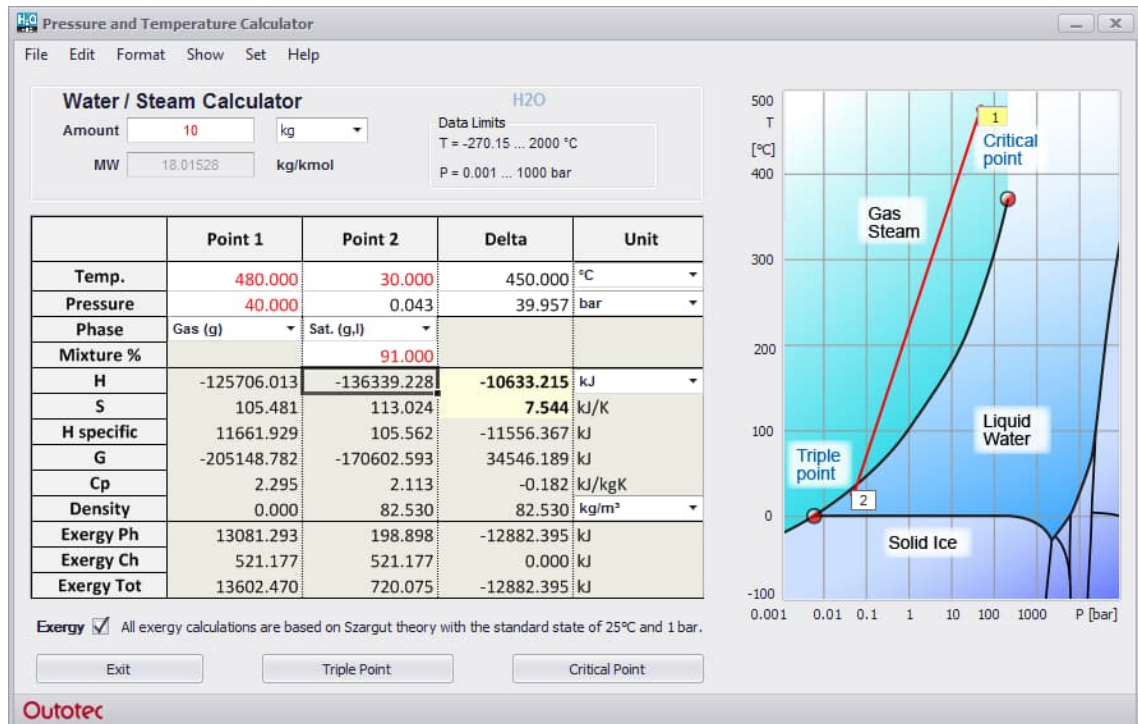

Fig. 4. Steam turbine process.
A simple steam turbine process is shown in **Fig. 4**. The calculation shows that the net enthalpy for a mass flow of 10 kg/s is -10633 kW and thus exothermic, i.e. the enthalpy is released in the form of work on the shaft. The entropy generation is 7.5 kW/°C and the process is therefore not isentropic. By decreasing the Mixture % (in this case ~ 81.7 %), the process may be compared with the ideal isentropic process for which there is no entropy generation. The enthalpy released in the isentropic process is -12903 kW and the isentropic efficiency is therefore, according to Equation (2), $\eta_{s,t} = -10633$ kW / -12903 kW = 0.82.